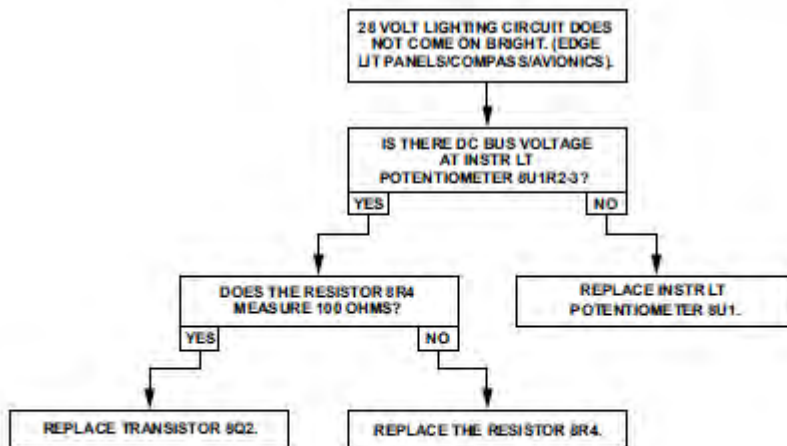

Figure 96-94: 5 VDC and 28 VDC Instrument/Control Panel Lighting Circuit – Trouble No. 5
- If the 28 VDC lights (edge lit panels/compass/ avionics) do not come on bright, refer to Trouble No. 5 (Figure 96-94).